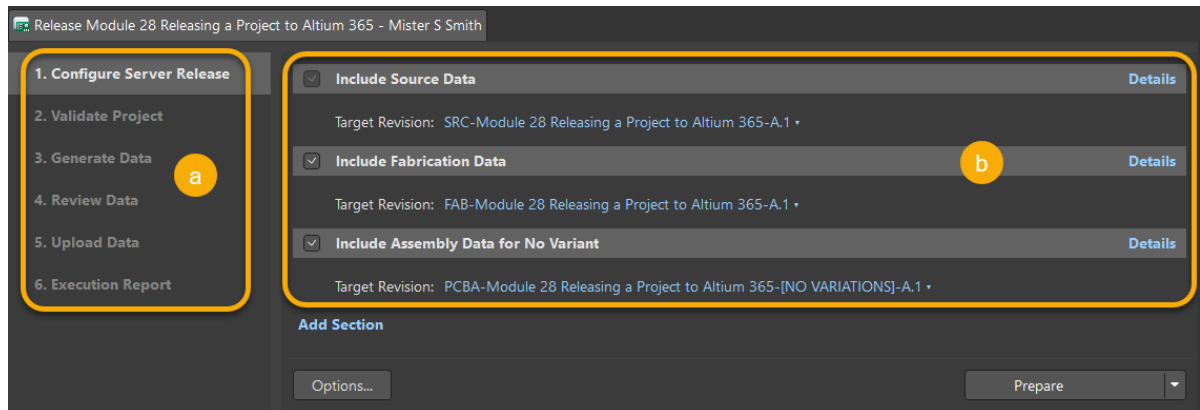

Figure 2. Release Process
10. Select the command **Project » Project Releaser...** to open the release process, Figure 2